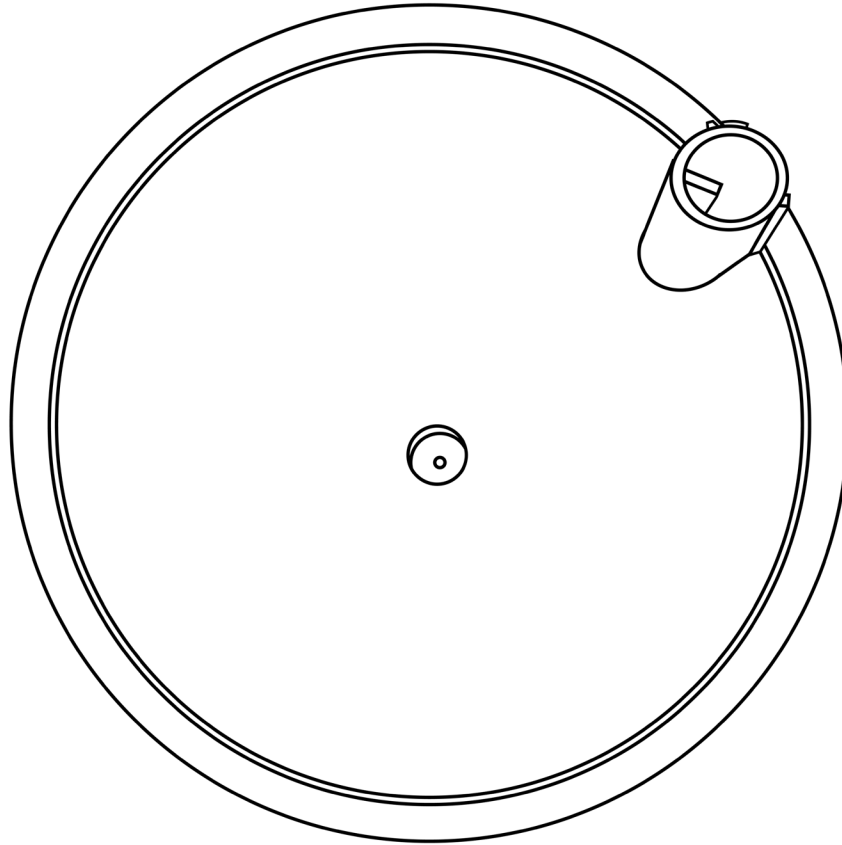

Figure 1. Wetted filter paper disc installed in ATMOS 41 funnel. The small hole is to regulate water flow rate through the funnel.
9. Poke a very small hole through the middle of the filter paper using a metal wire or fine-point pen/pencil (Figure 1). Exercise caution when poking the filter paper to avoid damaging parts below the funnel.